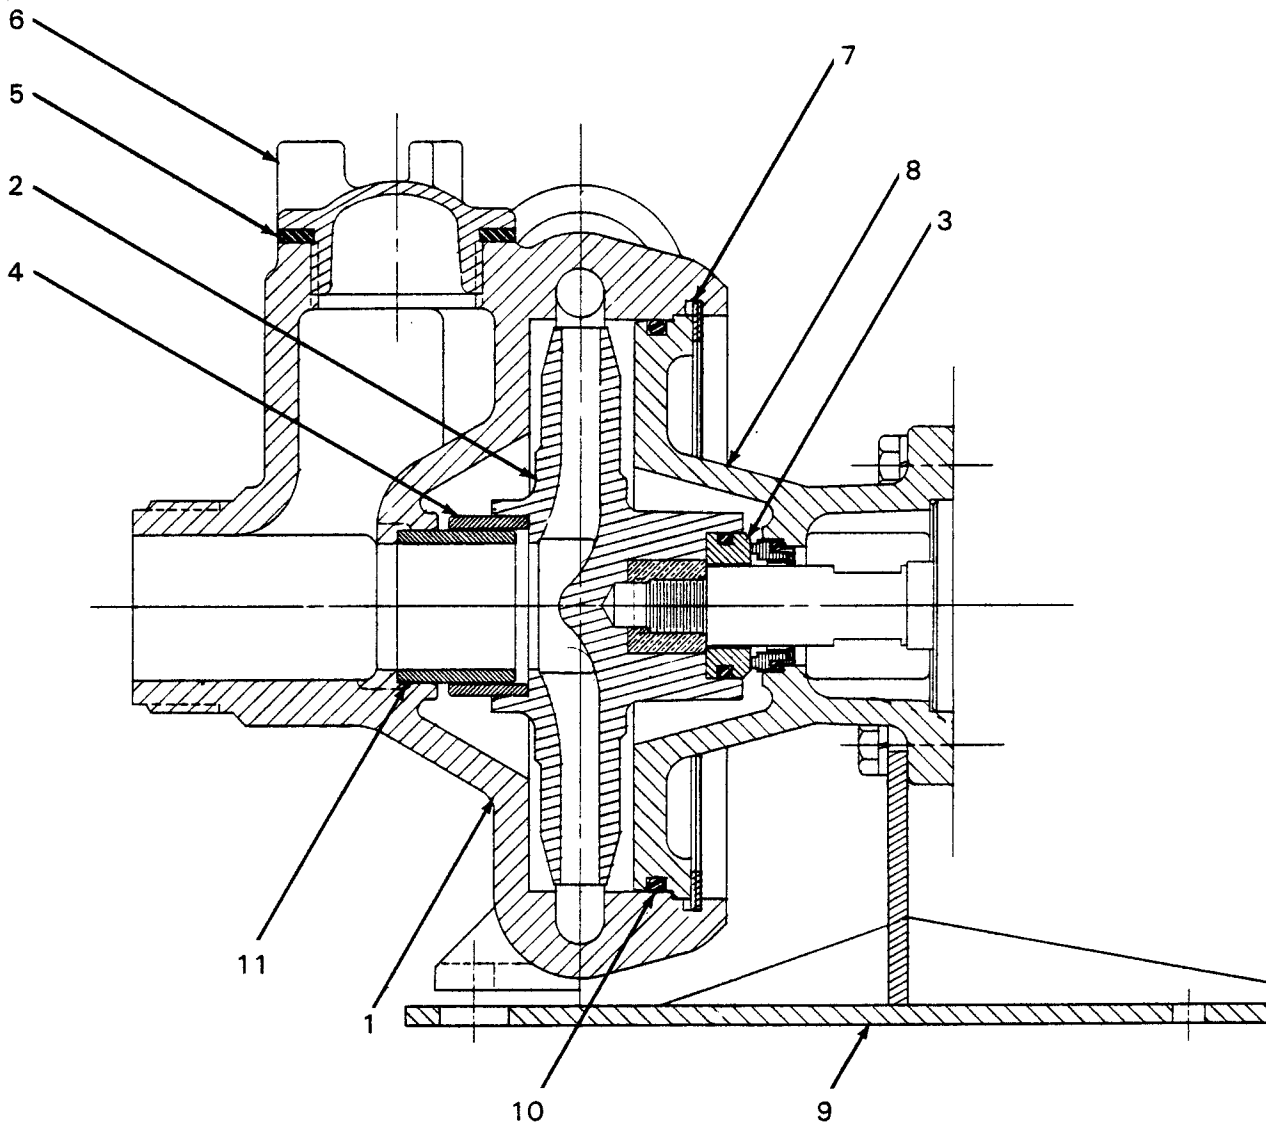

Figure 2. Pump Model 61½DP (FS)
For access to the impeller (2, figure 2), and seal assembly (3), separate the volute housing (1) from the intermediate bracket (8).
Disengage snap ring (7, figure 2), securing the volute housing to the intermediate bracket and separate the assemblies. The impeller is now accessible.
Remove fill cap (6, figure 2) and fill the volute with clean liquid and make certain that all piping is securely tightened before starting the pump.